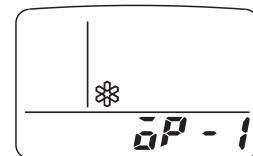

Fig. 10
- d)  $\circledast$  appears with “oP-1” blinking in the remote controller clock display area. (Fig. 10)